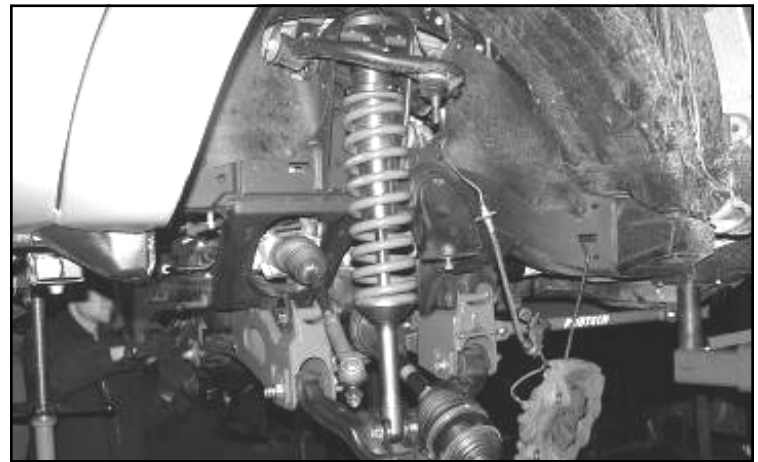

FIGURE 26 - STEP 30
30. Locate and install FT825152 Coil Over or FT820152 Coilover w/Resi as described in the instructions enclosed with the coilovers. **SEE FIGURE 26**